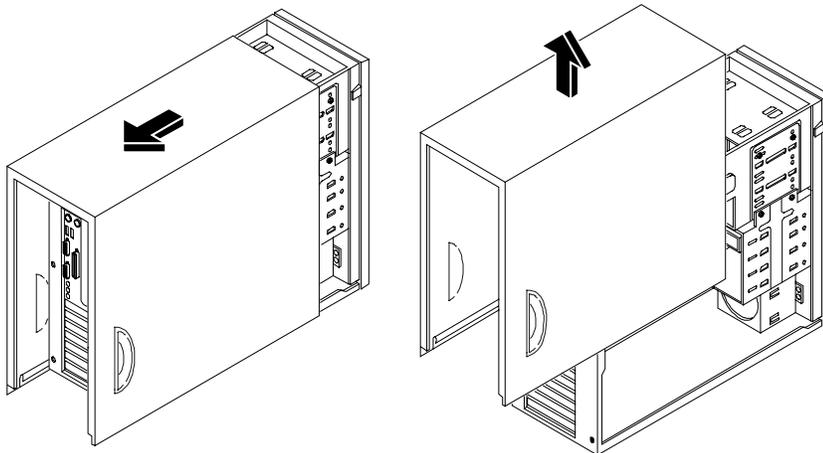

Figure 2-2. Removing the Cover
4. Remove the NetServer cover. See Figure 2-2.